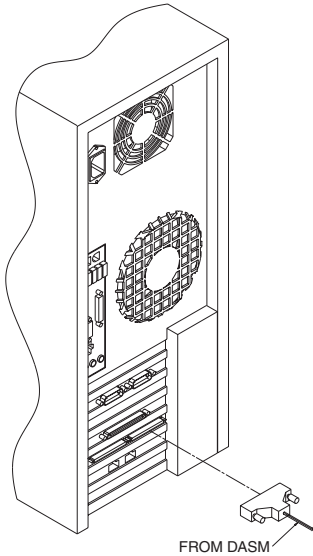

Figure 2-15 SCSI Cable Connection for DASM
- 6.) Attach the free end of the SCSI cable to the rear of the Host Computer (see Figure 2-15).